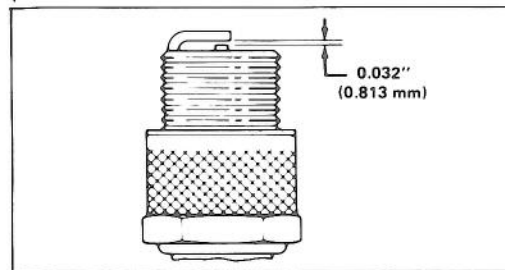

Figure 17
3. INSTALL SPARK PLUG — Set air gap (Fig. 17) between electrodes at .032" (.81 mm). Install plug and tighten to 15 ft-lb (20.4 N.m). If torque wrench is not used, tighten plug firmly. Push wire onto spark plug and reinstall control panel.